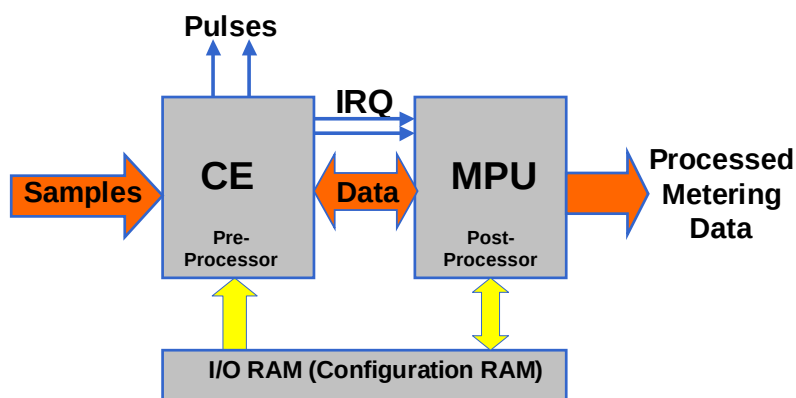

Figure 25: MPU/CE Data Flow
The data flow between CE and MPU is shown in Figure 25. In a typical application, the 32-bit compute engine (CE) sequentially processes the samples from the voltage inputs on pins IA, VA, IB, and VB, performing calculations to measure active power (Wh), reactive power (VARh), A^2h , and V^2h for four-quadrant measurement. These measurements are then accessed by the MPU, processed further and output using the peripheral devices available to the MPU.